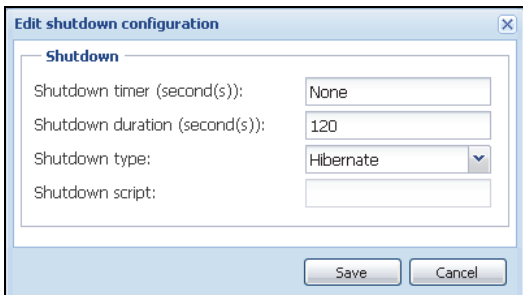

Figure 87. Edit Shutdown Configuration Dialog Box
- Figure 87 illustrates the Dell MUMC default configuration available from **Settings > Shutdown > Edit Shutdown Configuration**.